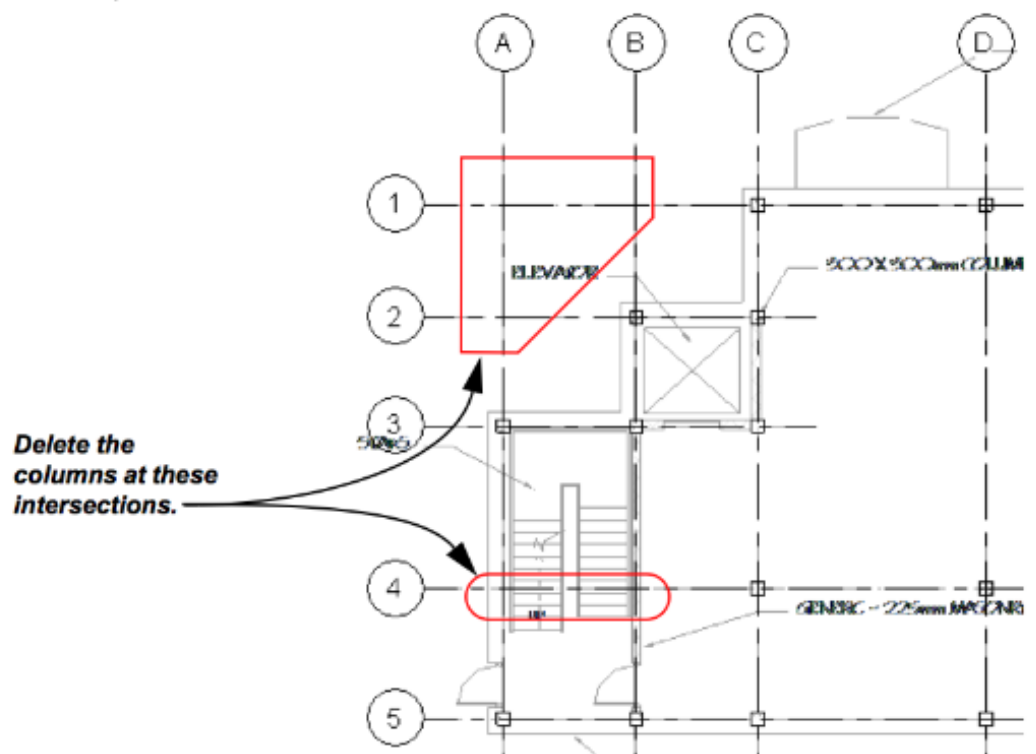

Figure 3–35
8. Delete the columns at locations **A1, A2, A4, B1, and B4**. The project displays as shown in Figure 3–35.